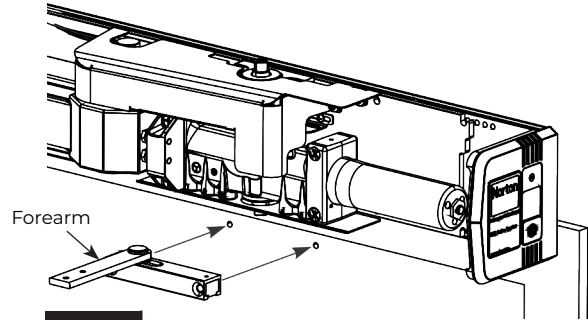

Figure 26
1. Using previously prepared holes in door, install two (2) 1/4-20 x 1-5/8" screws through shoe and into sex bolts. (Figure 26)